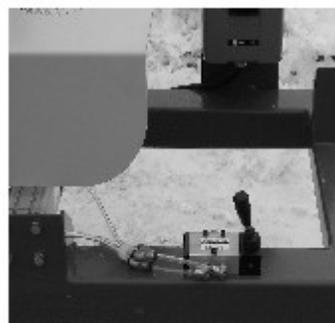
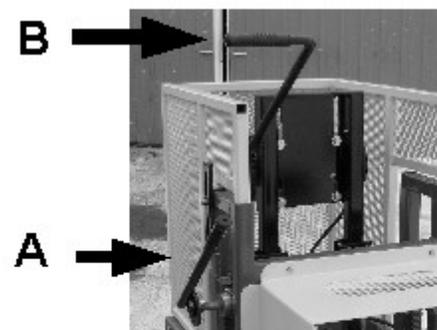

FIG 8
FIG 9
Place post or boards (up to 6") into machine. Bump the post against the stop and activate clamps with hand valve (Fig 8). Pull handle (A) down for French Gothic notch, then release. Pull handle (B) for the final point. Follow through with this cut until the head hits the stop (Fig 9).